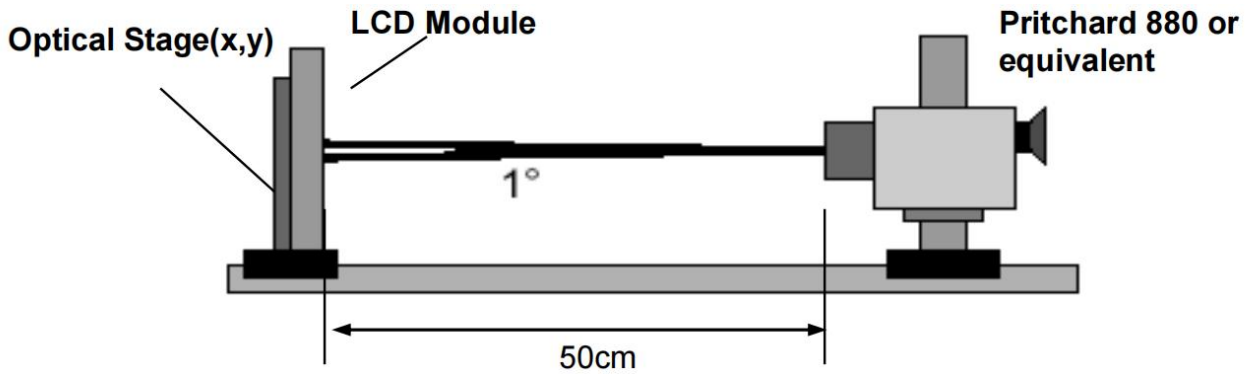

FIG.2 Optical Characteristic Measurement Equipment and Method
3. The variation in surface luminance , WHITE is defined as : WHITE(9P) = Minimum Luminance(Lon1,Lon2,...,Lon9) / Maximum Luminance(Lon1,Lon2,...,Lon9)*100 Where Lon1 to Lon9 are the luminance with all pixels displaying white at 9 locations . For more information, see the FIG. 2.